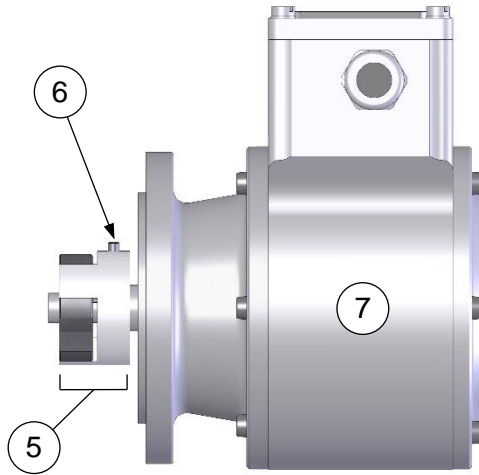

Figure 4:
Encoders in construction type B5/B14 have a second shaft end with integrated coupling half (1) and a B 14 flange (2) on the non-drive end onto which it is possible to fit an additional device with a B5 flange, for example an incremental encoder, absolute shaft encoder or an overspeed switch. A second coupling half with elastomer ring (5, Figure 4), which is available as an accessory, is required to fit an additional device. Installation example see dimension drawing HM 09 M 102 245 (Chapter 11.5). This design option makes it possible to combine up to four devices.